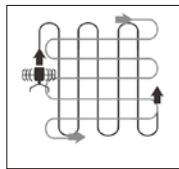

FIG. 9
- Till in slightly overlapping rows. To till most effectively, follow the pattern indicated in Fig. 9. Start by moving the tiller up and down in vertical lines, then work horizontally from left to right. This will keep the rows even and ensure that all the ground is tilled without missing any spots.